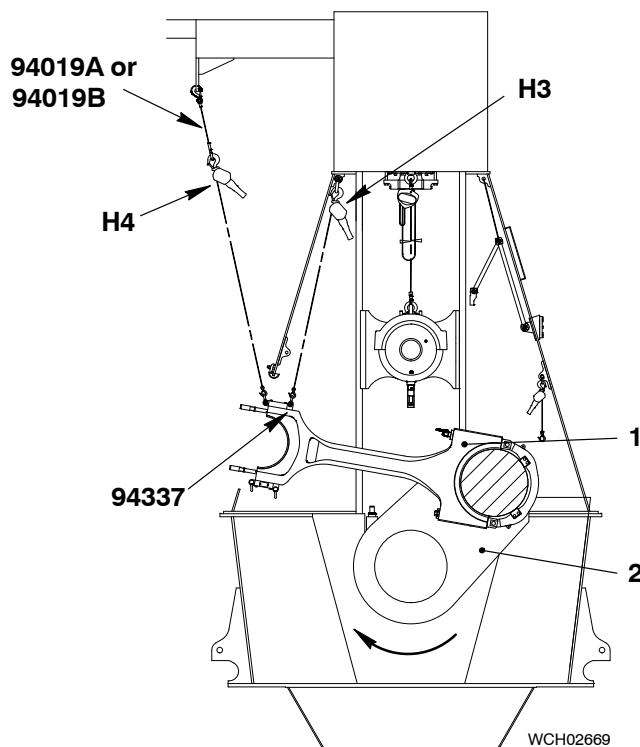

Fig. 15
- 19) Operate the turning gear and the manual ratchet (H4, Fig. 15) to move the connecting rod (1) and crankshaft (2) clockwise into the position shown.